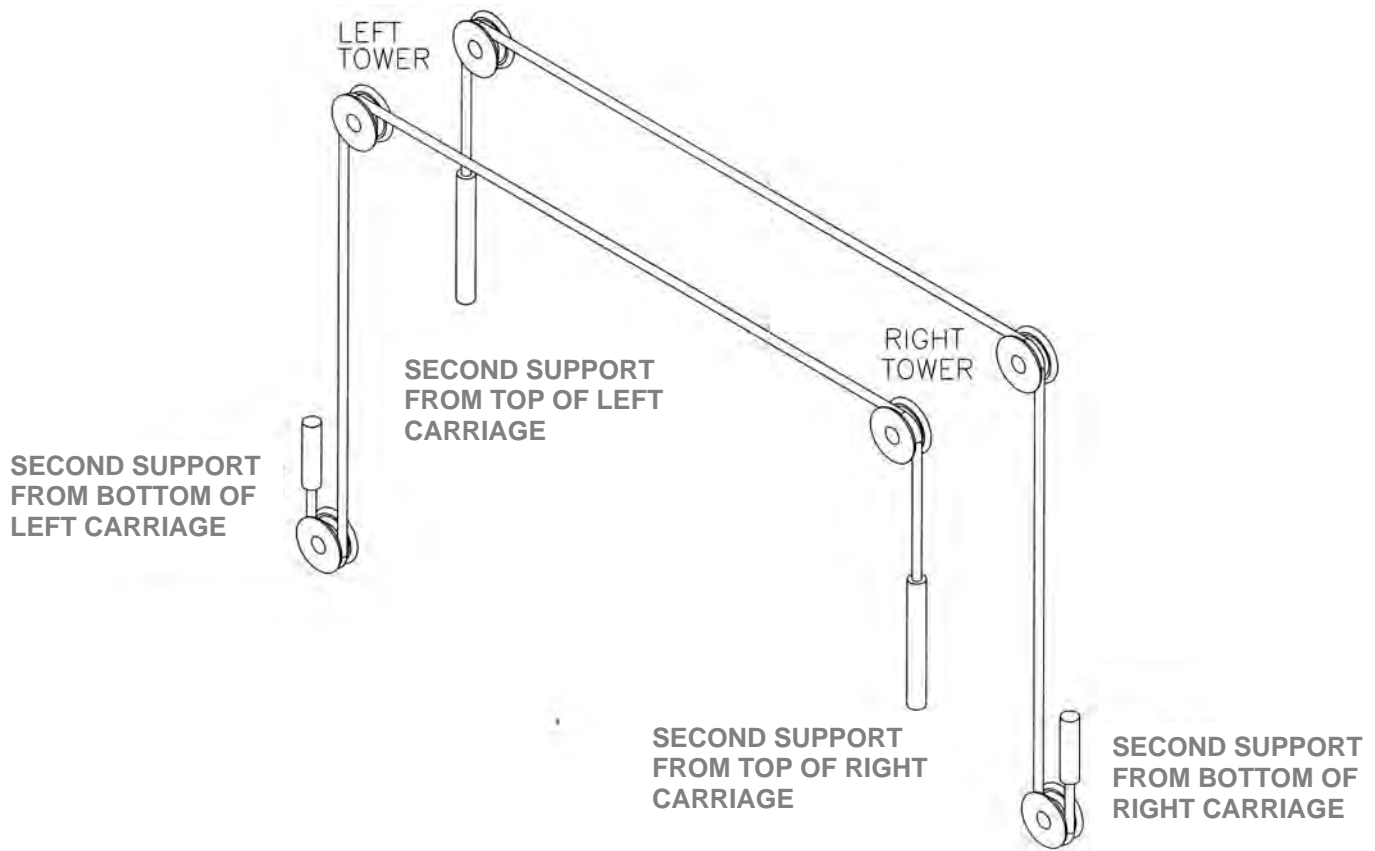

Figure 13: Cable Routing
2. Remove equalizing cables from the accessory kit box, and locate the (8) $\frac{1}{2}$ "-13UNC nuts in the hardware kit box.
3. Equalizing cables are to be routed as shown in **Figure 13**.